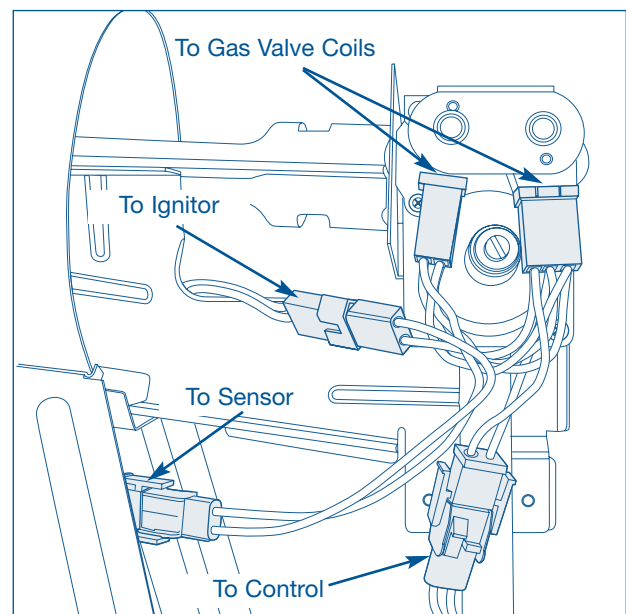

Figure 4-48.
3. Disconnect from the Molex connectors for the ignitor, sensor and main wire harness. (See Figure 4-48)
2. Disconnect all electrical connections from gas valve, coils, ignitor and wire harness. (See Figure 4-48)